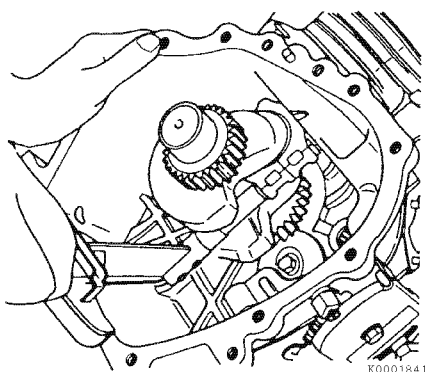

Figure 6-97
- Apply a light coat of clean engine oil to the rod cap bolts. Install the connecting rod cap. Tighten the connecting rod bolts **Figure 6-97** to the specified torque in two stages as shown in chart below. See *Special Torque Specifications on page 6-17* for specifications.